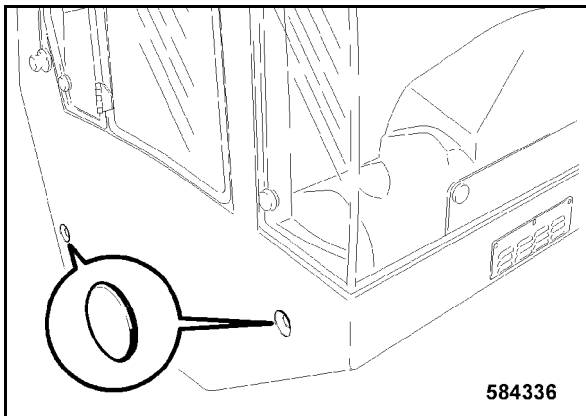

Fig. 219
- Cover all lateral fastening screws with plastic caps (Fig. 219).